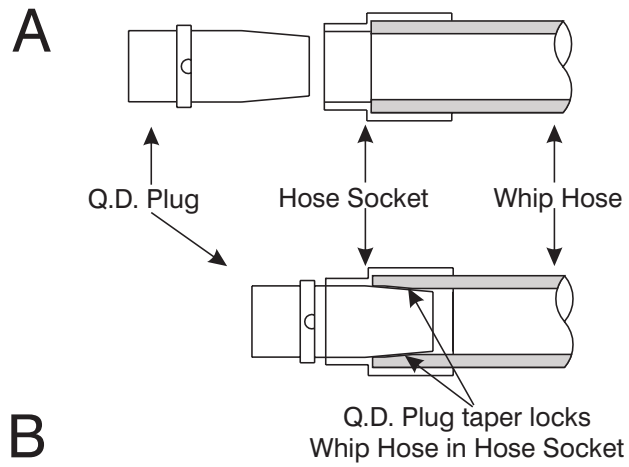

Figure 9-12. Thread Tapered End of Q.D. Plug into Hose Socket.
6. Start the tapered end of the Q.D. Plug (15) into the Hose Socket. See Figure 9-12-A.